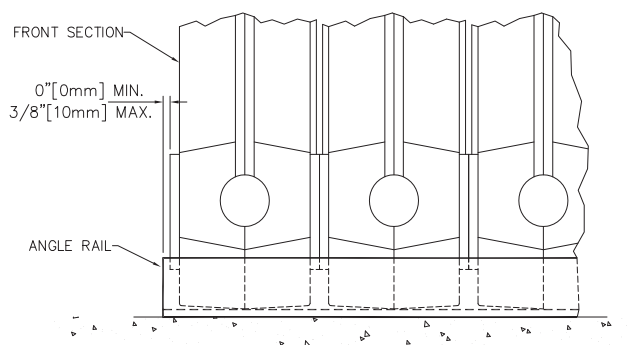

Figure 2.2: Front Section Placement
4. Place the Front Section in position on the angles as shown in Figure 2.2. The end of the floor angle must either be flush with the boss for the wash out connection or extend beyond it by as much as 3/8" [10 mm].